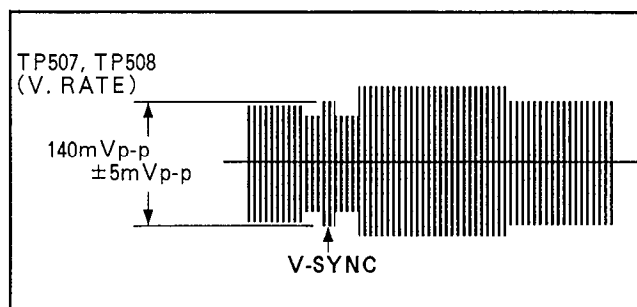

Fig. E4
3. Adjust VR3006 so that the sync level is $140\text{mV} \pm 5\text{mVp-p}$. (Refer to Fig. E4)